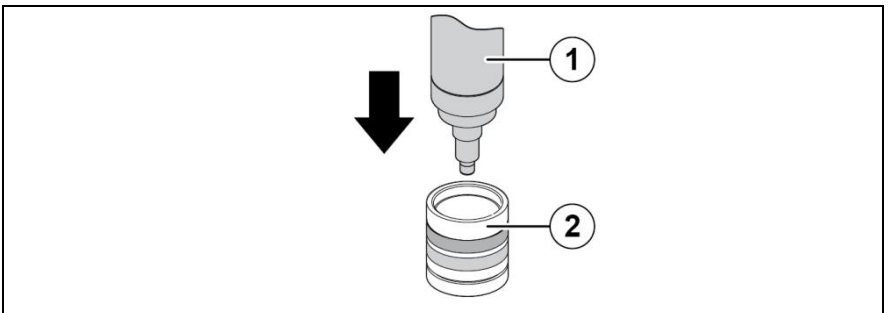

Fig. 5: *Placing the sensor body on the sensor cap*
- ▶ When screwing on the membrane cap make sure that the valve is not closed off (see Fig. 5, page 18).